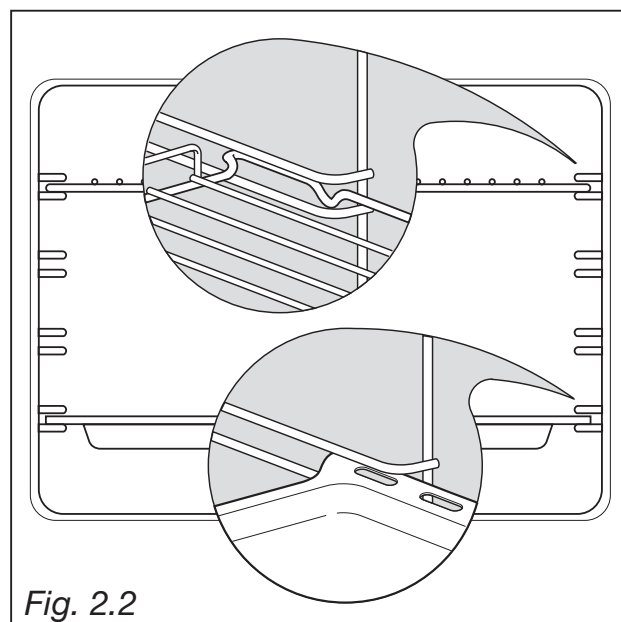

Fig. 2.2
- Slide in, on the guides, the shelf and the tray (fig. 2.2). The rack must be fitted so that the safety catch, which stops it sliding out, faces the inside of the oven.